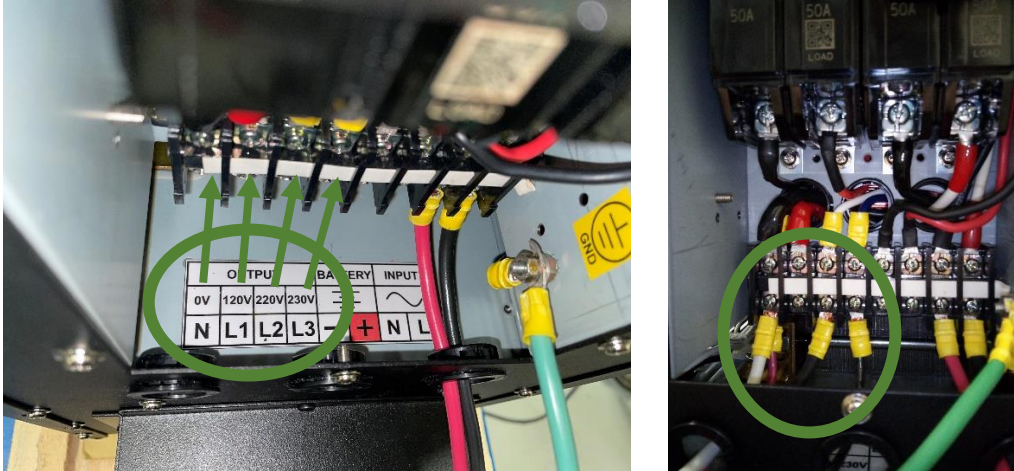

Figure 3—Terminal Block in back of Q-MS with Output Neutral and three Output Line terminals before & after connected
1. In the bottom back of the Q-MS, connect N (NEUTRAL), L1, L2, and L3 cables to their corresponding terminals on the bottom of the terminal block (**Figure 3**).